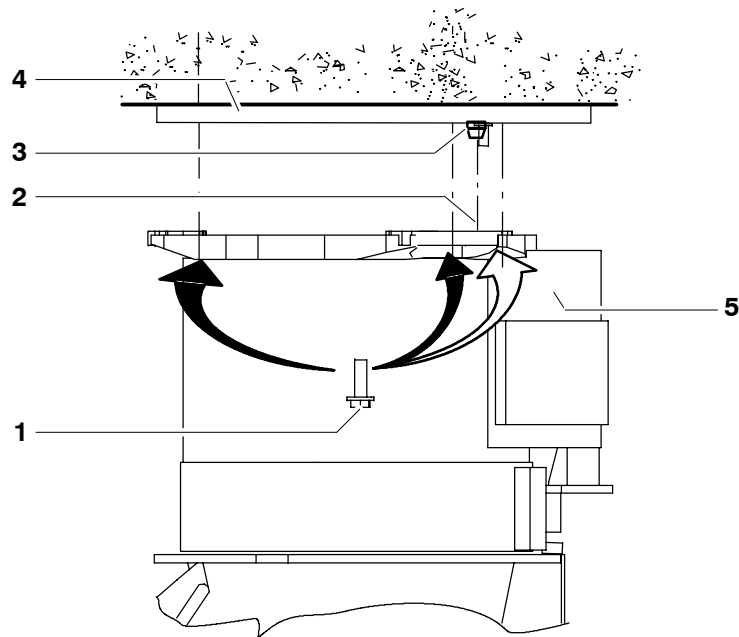

Fig. 57 Installing the manipulator on the ceiling
- (3) Move the manipulator (Fig. 57/5) vertically upwards onto the ceiling (4) or onto the steel structure to prevent damage to the locating pins.